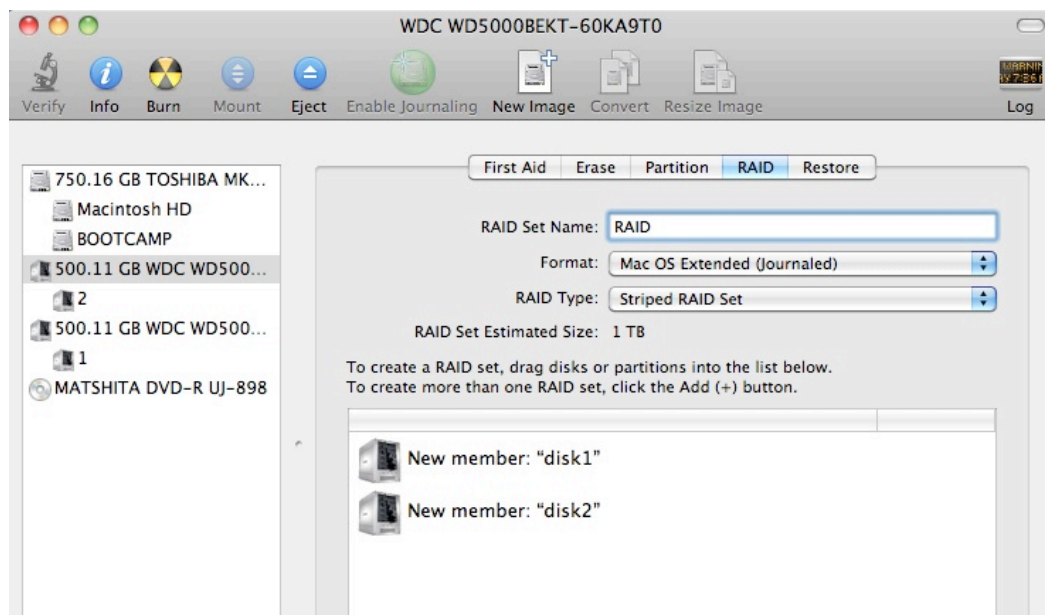

Figure 9: Example drives and options for a RAID volume;
5. Carefully select and drag a hard drive to add it as a member of the new RAID volume in the *Disk Utility* status window (Figure 9).